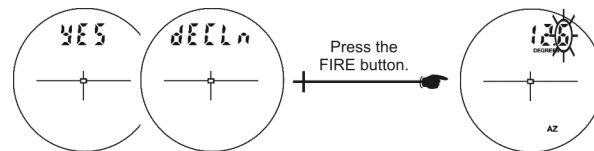

Figure 3. The TruPulse viewfinder, showing a user-entered declination value.
5. **dECLn** is displayed. Press ▼ to display the **HACAL** option, then press “Power/Fire” again (Figure 3).